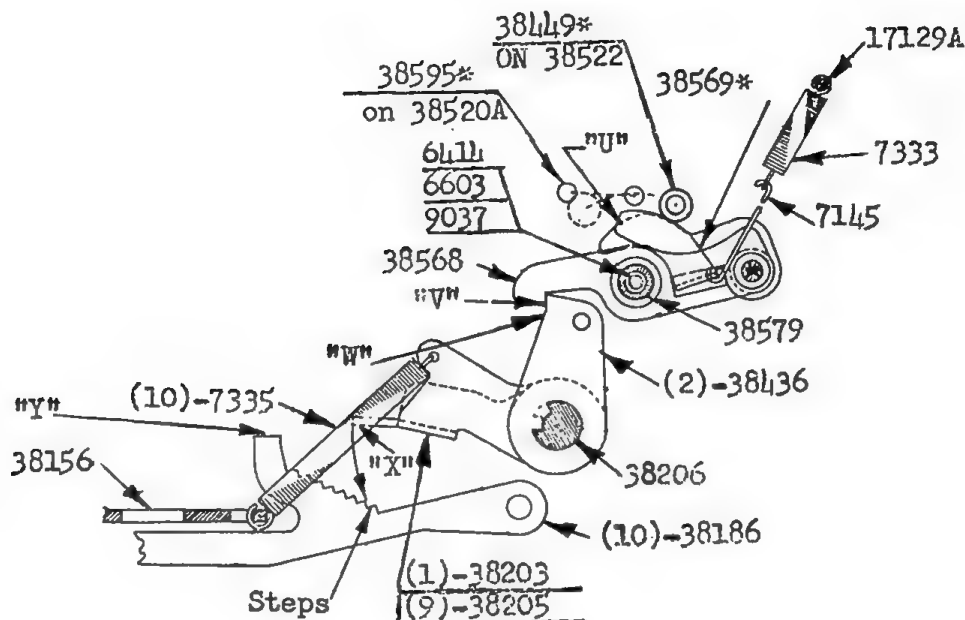

FIG. 28
6. (FIG. 28 & 29). The Multiplier Selection Lock Latch Live Tip-38569* on Assembly-38568 is normally held depressed by Spacer-38449* on Lever 38522. (FIG. 28 & 29). As Bail-38560 is released, Lever-38522 is rocked counter-clockwise to carry its Spacer 38449* forward and away from surface "T" on Live Tip-38569* and allows 38569* to
spring upward, positioning its surface "U" into the path of Stud-38595* on the Master Clutch Power Link #2-38520A, thus positioning the Live Tip-38569* for power release of the Selection Recock Arm-38436, which is keyed to the Multiplier Selection Shaft-38206. (Fig. 28).
surface "V" from surface "W" on the Selection Recock Arm-38436 (which is tightly keyed on Shaft-38206) allowing Arm-38436 and Shaft-38206 to rock counter-clockwise. 7. (FIG. 28). The Multiplier Selection Locks-38205, one for each of